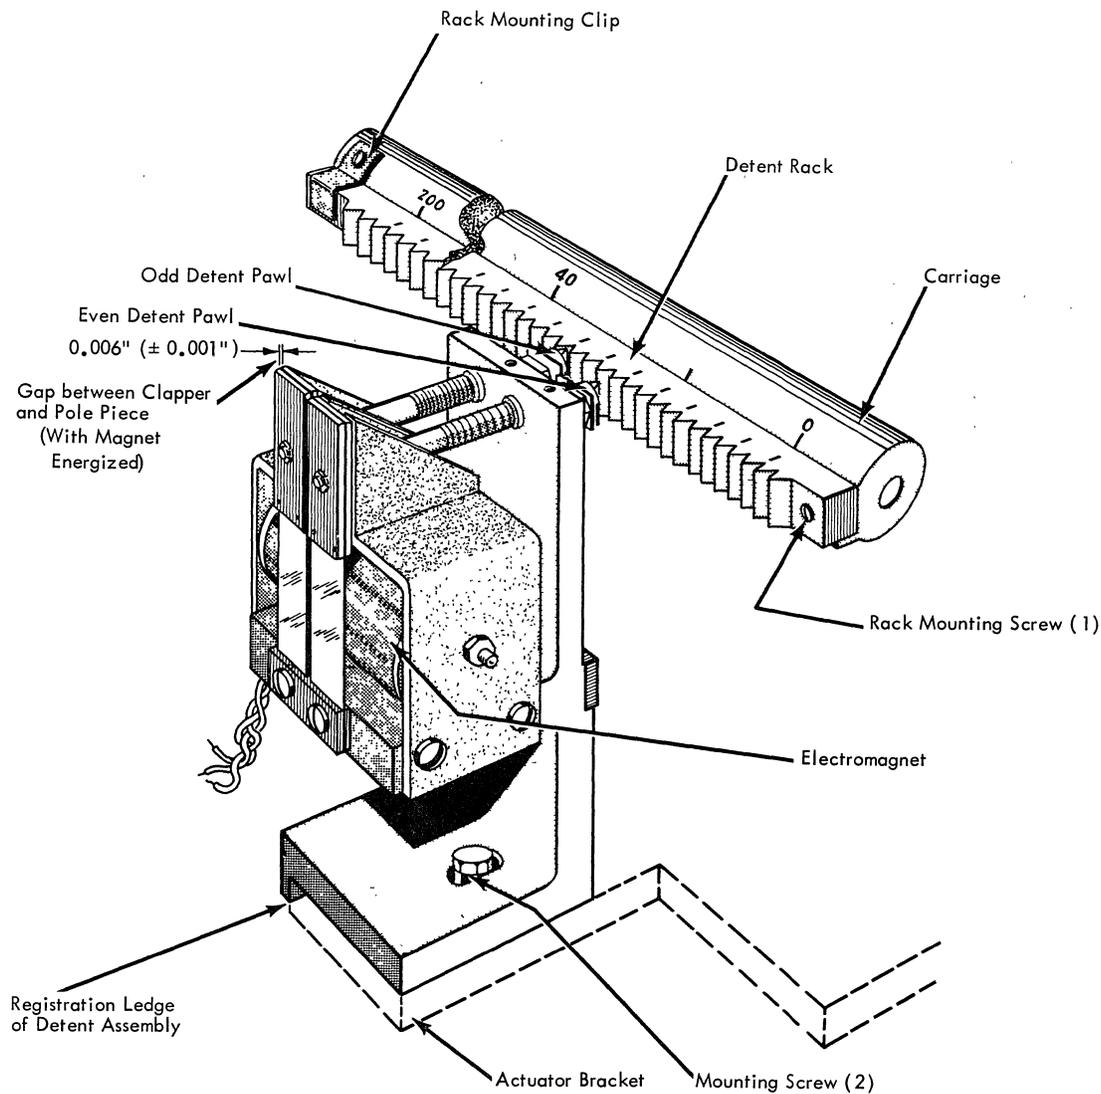

Figure 4-4. Detect Assembly, Adjustment
##### 4.7.2 Detent Assembly Adjustment (Figure 4-4)
2. Push registration ledge of detent assembly against the corresponding edge of carriage mounting base (Figure 4-4).